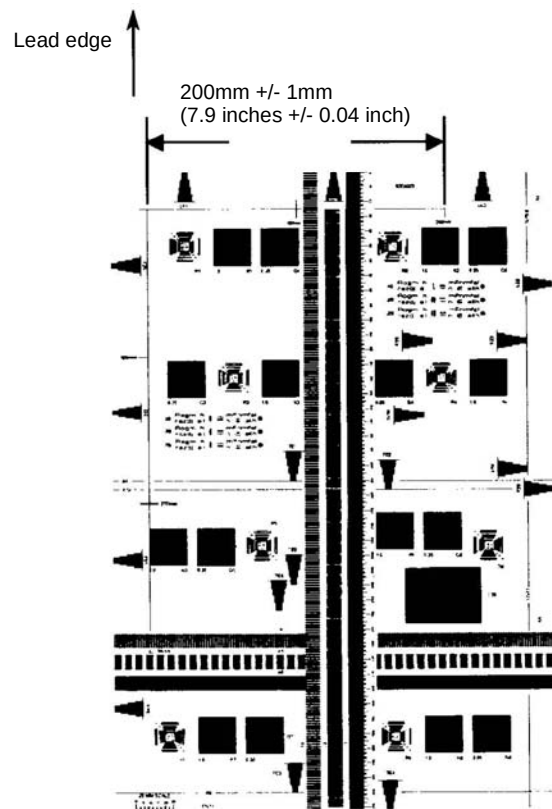

Figure 1 Cross process direction magnification
- a. To check the cross process direction magnification: measure the 200mm line running from near LE1 to near LE3. Check that the dimension is 200mm +/- 1mm (7.9 inches +/- 0.04 inch). Refer to **Figure 1**.